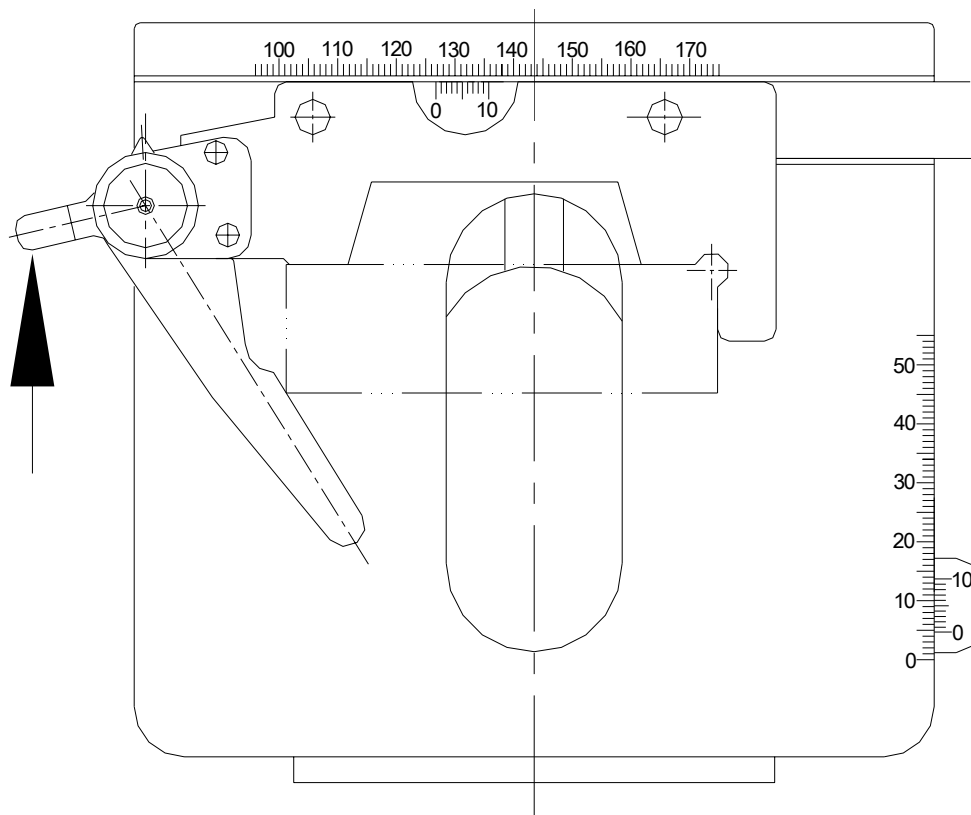

Fig 3. Mechanical Stage
7. Mechanical stage (6):
The stage of this microscope is double layers mechanical stage showed in Fig 3. Its size is 140(L) X155(W) mm. Push the rod of the clamp in the arrow direction as Fig 3, and insert the specimen into the clamp carefully.